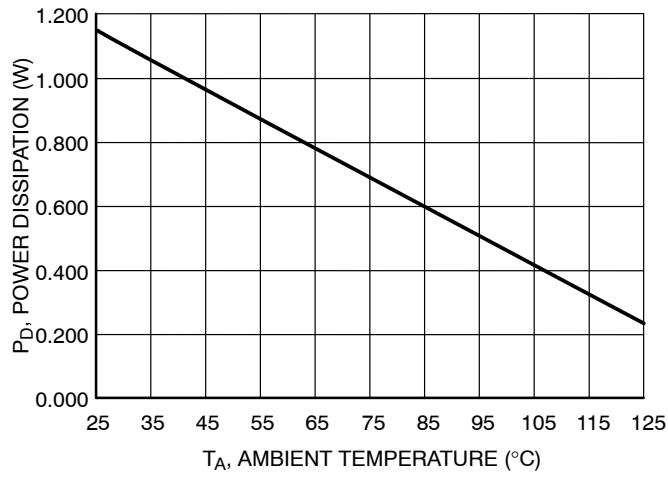

Figure 3. Total Power Dissipation ( $P_D$ ) vs. Ambient Temperature ( $T_A$ )
9. If  $P_{D\_total} > 1.13 \text{ W}$  (or derated value per Figure 3), then select the most appropriate recourse and repeat steps 1–8:
- If  $P_{D\_total} > 1.13 \text{ W}$  (or derated value per Figure 3), then select the most appropriate recourse and repeat steps 1–8: